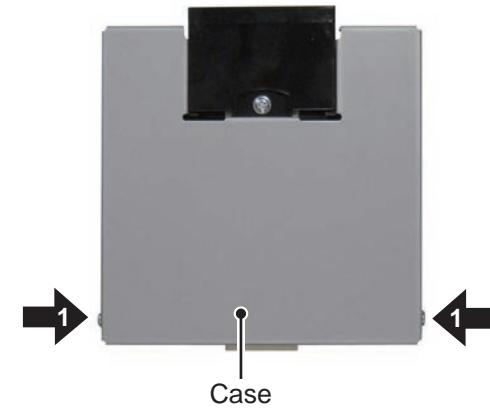

Fig.17
● Removing the Panel Control Unit (Fig.17, 18)
- 1 Remove the two screws and then remove the Case. (Fig.17)